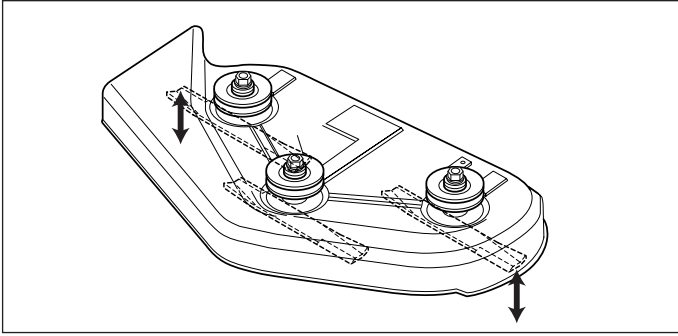
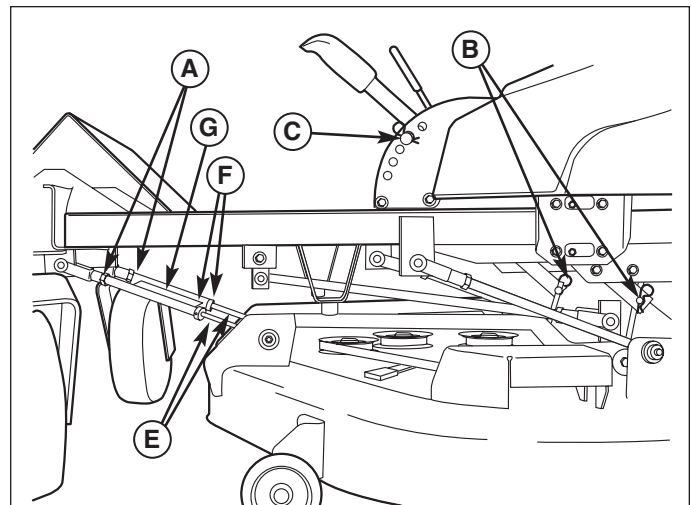

Figure 18. Orient Blades Side-to-Side
Figure 20. Mower Leveling
3. Place the mower cutting height pin in the 4th hole from the bottom (C, Figure 20). Arrange the outside mower blades so that they are pointing from side-to-side (Figure 18).
4. Measure the distance between the outside tips of each blade and the ground (Figures 18 & 19). If there is more than 1/8" (3mm) difference between the measurements on each side, proceed to step 5. If the difference is 1/8" (3mm) or less, proceed to step 6.
5. Use the rear leveling rods (B, Figure 20) to adjust the side-to-side leveling of the deck. Repeat step 4 if necessary.
8. Check the length of the hanging rods: the rear (D, Figure 20) should be 15" (38,1cm) and is not adjusted. The front rods (E) should be initially adjusted to 14-3/4" (37,5cm). To adjust the pitch of the mower deck, adjust the front pitch rods only.
9. To lower the front of mower deck, loosen the set collars (F, Figure 20) and slide towards the mower deck, loosen the jam nuts (A) and adjust the clevises out. Reverse this to raise the front of the mower. Be sure to raise or lower both clevis the same amount.
1. Place the mower cutting height control in the 4-1/2" position (C, Figure 20).